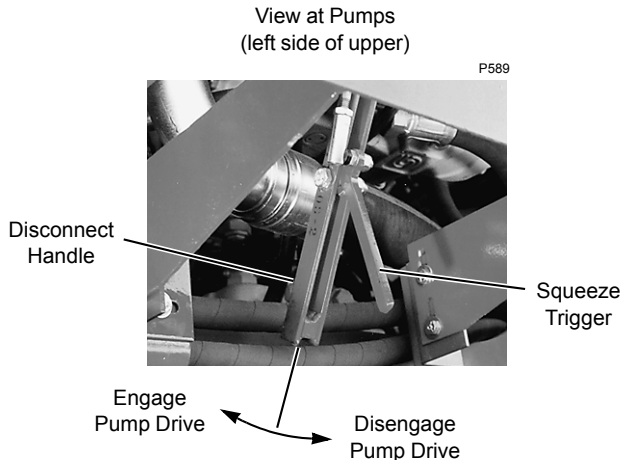

FIGURE 3-15
4. If required, disengage the pump drive (Figure 3-15). This step will disconnect the pumps from the engine and aid in cold weather startup.